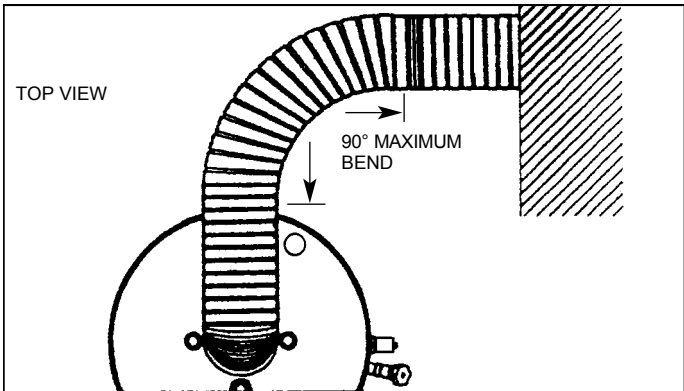
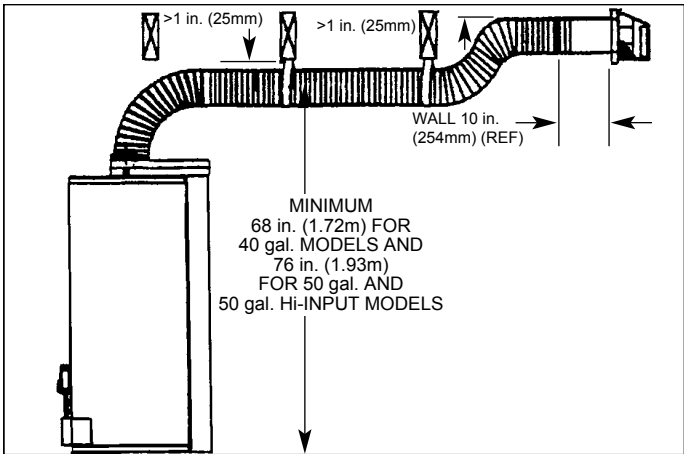

FIGURE 26
FIGURE 27
- B. **Do not combine condition 1 (Figure 26) with condition 2 (Figures 27 & 28) in the same installation.**